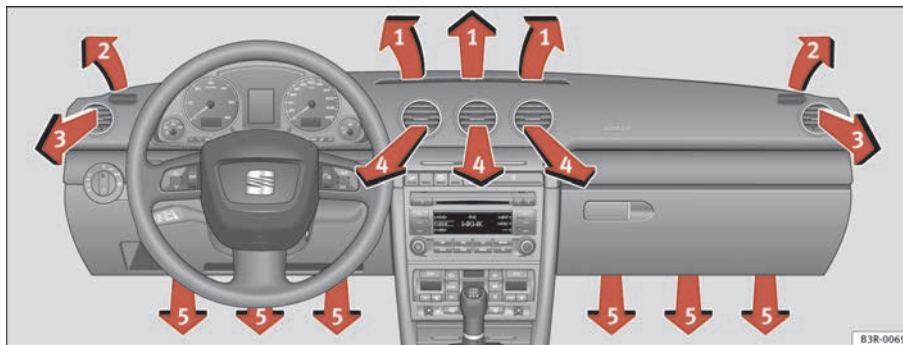

Fig. 135 Instrument panel: Location of air outlets
The air outlets ⇒ fig. 135 ③ and ④ can be operated as follows:
Each of the three buttons has a specific function. The numbers relate to the air outlets => page 159, fig. 135.
After the ignition is switched off, the blower is supplied with electrical power from the solar roof. Please ensure that outlets 3 and 4 are open ⇒ page 159, fig. 135 to ensure the best possible ventilation.